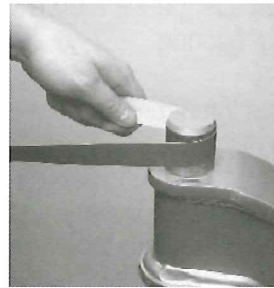

Figure 8.
1. Prepare and polish the kingpin by removing all grease and excess debris using a fine grit (220 grit or higher) emery cloth and parts solvent. (See Figures 8 through 11)